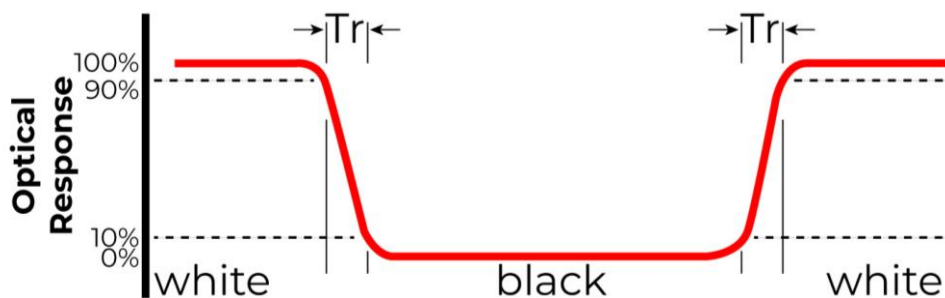

Figure 2. The definition of response time
| Response Time | Tr+Tf | $\theta=0^\circ$ $\phi=0^\circ$ Ta=25 °C | - | 27 | 45 | ms | FIG 2. | 4, 7 |
Note 1. Contrast Ratio (CR) is defined mathematically as below, for more information see Figure 2.
Note 2. Surface luminance is the LCD surface from the surface with all pixels displaying white. For more information see Figure 2.
Note 3. The uniformity in surface luminance δ WHITE is determined by measuring luminance at each test position 1 through 5, and then dividing the minimum luminance of 5 points luminance by maximum luminance of 5 points luminance. For more information see Figure 2.